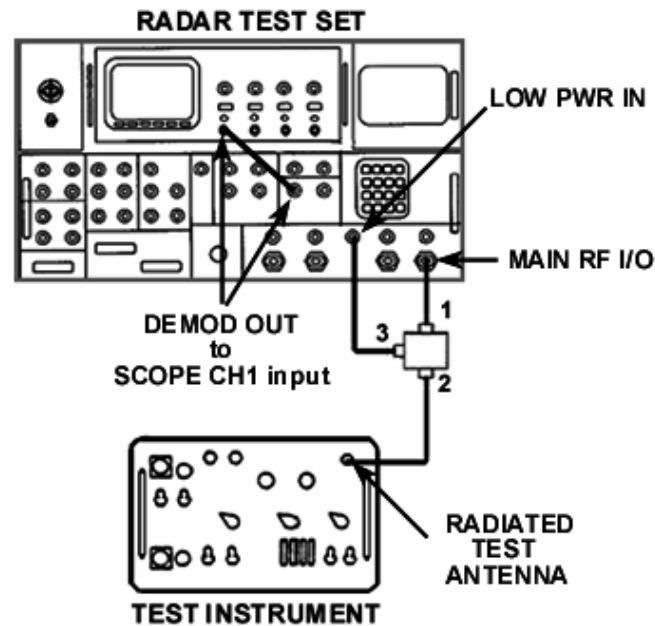

Figure 3. Transmitter frequency/pulse – equipment setup.
(1) Connect equipment as shown in figure 3.
(2) Initialize radar test set by selecting **FUNCTION** and **ENTER**. Set radar test set **INTERROGATOR** menus as listed below: